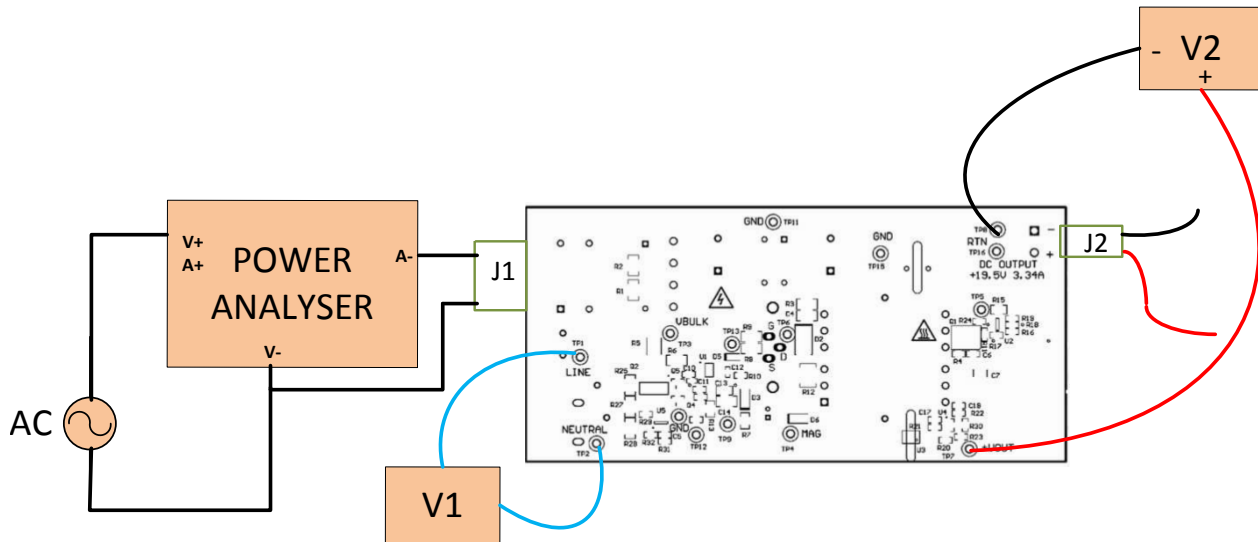
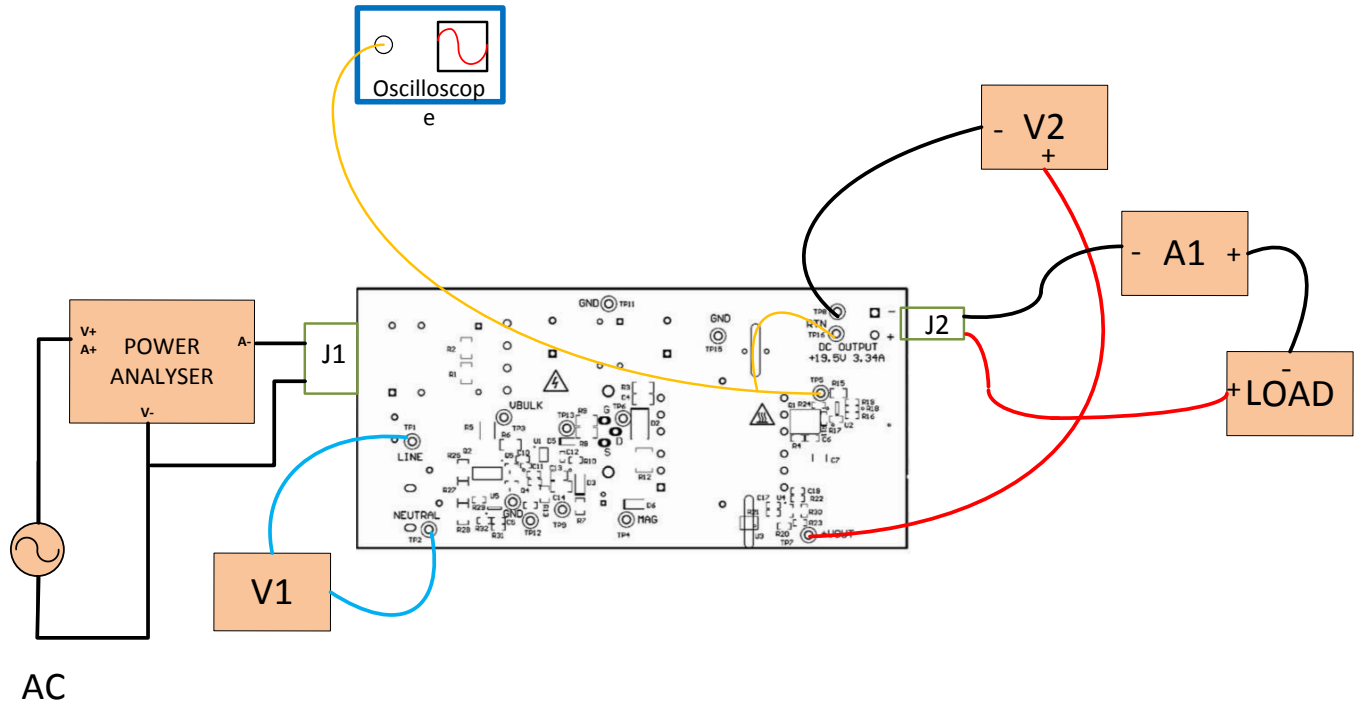

Figure 2. Recommended Test Set Up Without a Load
Figure 3. Recommended Test Set Up With a Load
AC Input Source: The input source shall be an isolated variable AC source capable of supplying between $90 V_{AC}$ and $265 V_{AC}$ at no less than 200 W and connected as shown in Figure 2 and Figure 3. For accurate efficiency calculations, a power meter should be inserted between the AC source and the EVM.
Figure 2 shows the equipment set up when testing at no load. The power analyzer should be set for long averaging mode in order to include several cycles of operation and an appropriate current scale factor must be used.
- Use the test set up shown in Figure 2.
- Set up the EVM as shown in Figure 3.
1. Use the test set up shown in Figure 3.